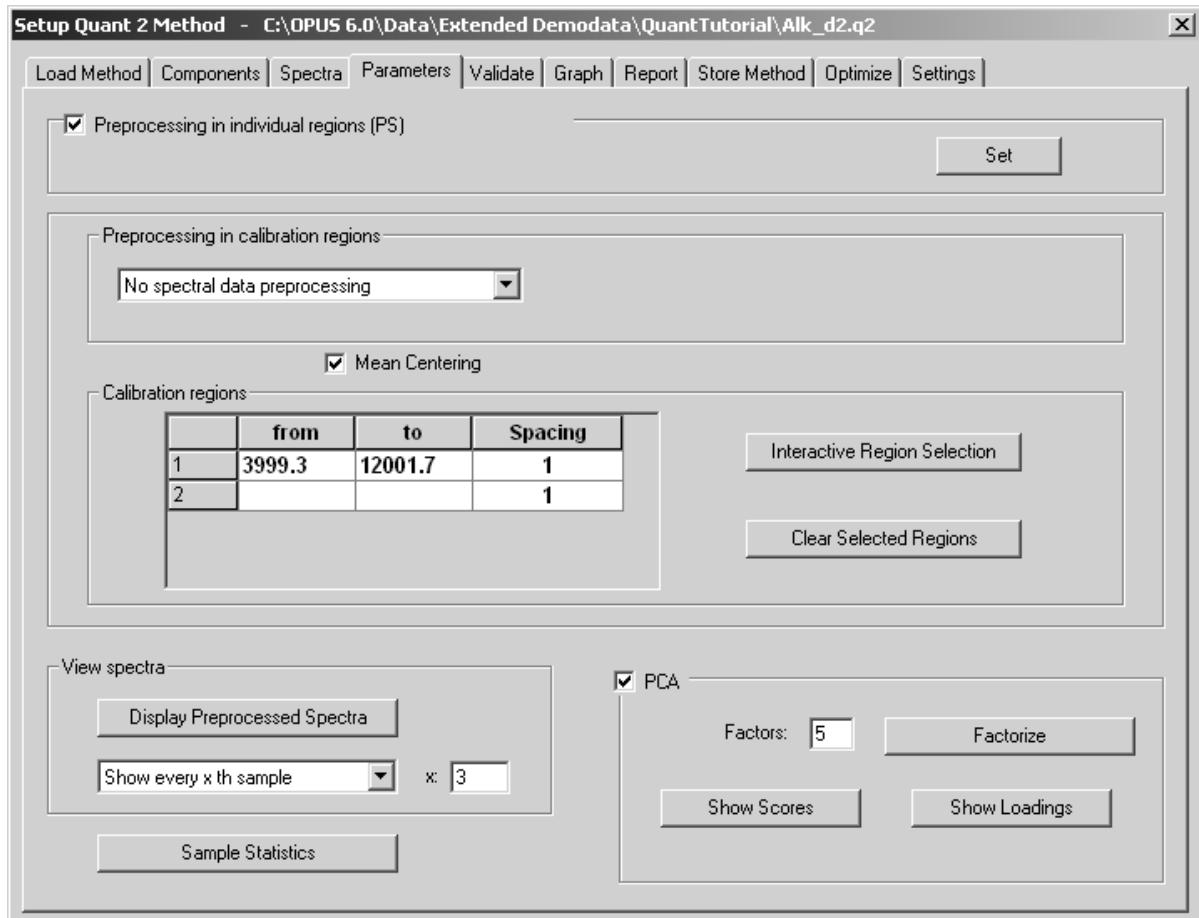

Figure 61: Setup Quant 2 Method – Parameters Page
2. Step: Data preprocessing on the basis of the frequency region(s) you have defined for the calibration. (See the dialog window shown in figure 61.) For this step, you can, but you need not necessarily select a data preprocessing method.
When you click on the *Sample Statistics* button (figure 61) the following window opens:
When you activate the *PCA* check box you can perform a Principle Component Analysis (PCA). (See figure 61.) Similar to the PLS regression, the PCA is intended to reduce the huge amount of acquired data and to describe it by as few factors as possible. In contrast to the PLS regression, however, the component values need not to be known.
Enter a value between 1 and 20 in the field *Factors* (the default value 5 is acceptable for most cases) and click on the *Factorize* button to start the PCA. See figure 61. The progress of the factor analysis is shown in the status bar.